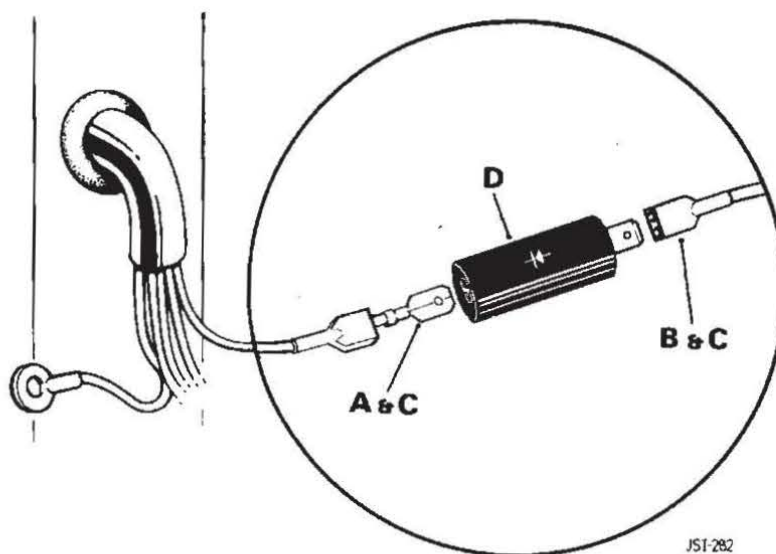

FIG. 2
3. Locate the interior door switch purple/white (PW) cable and cut.
4. Fit insulation sleeves (C, Fig. 2) and crimp/solder Lucar connector (A and B, Fig. 2), to the purple/white (PW) cable. Connect diode unit (D, Fig. 2) in circuit and strap or tape to the harness.